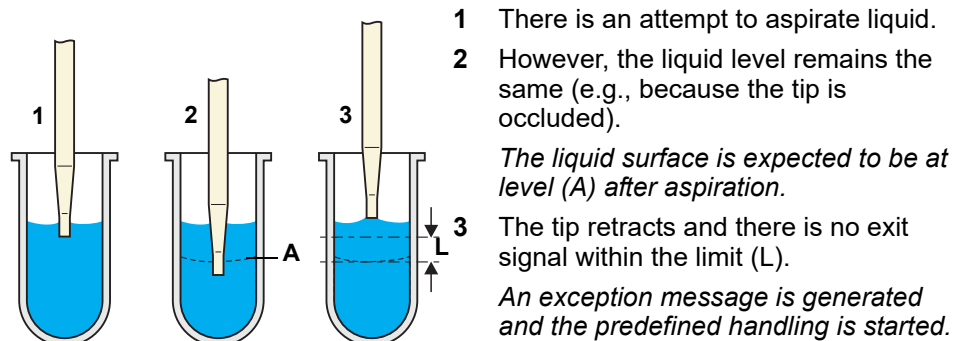

Fig. 3-43 Tip occlusion during aspiration
- ♦ A tip occlusion during aspiration causing insufficient volume aspiration (see Fig. 3-43 “Tip occlusion during aspiration”, 3-47).